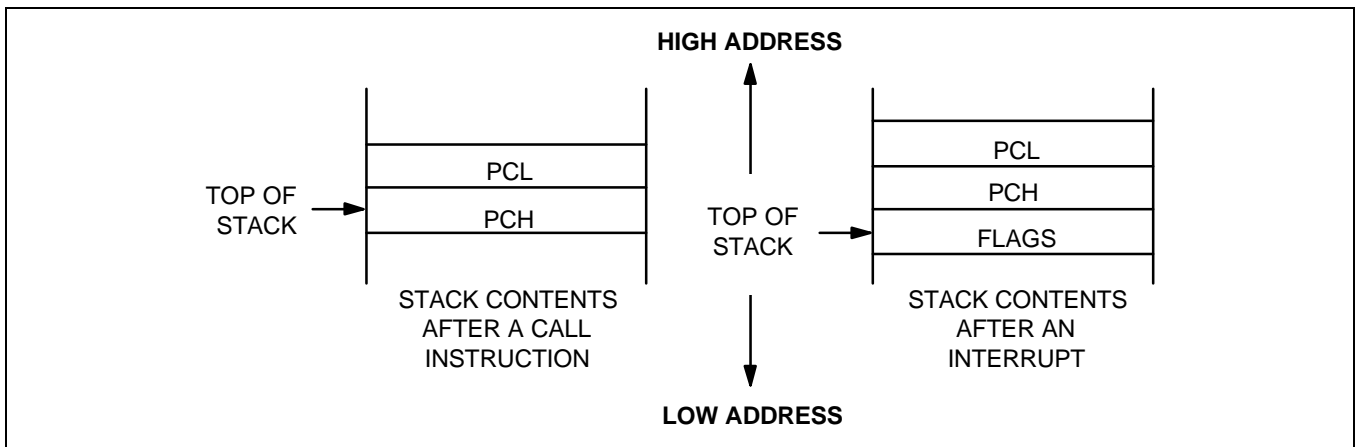

Figure 2-15. Stack Operations
Return addresses for procedure calls, interrupts, and data are stored on the stack. The contents of the PC are saved to stack by a CALL instruction and restored by the RET instruction. When an interrupt occurs, the contents of the PC and the FLAGS register are pushed to the stack. The IRET instruction then pops these values back to their original locations. The stack address value is always decreased by one *before* a push operation and increased by one *after* a pop operation. The stack pointer (SP) always points to the stack frame stored on the top of the stack, as shown in Figure 2-15.